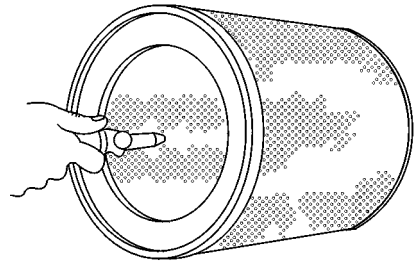

FIGURE 5-4. CLEANING THE FILTER ELEMENT WITH COMPRESSED AIR
2. As shown in Figure 5-4, direct the stream of air from the nozzle against the inside of the filter element. This is the clean air side of the element and air flow should be opposite of normal air flow.